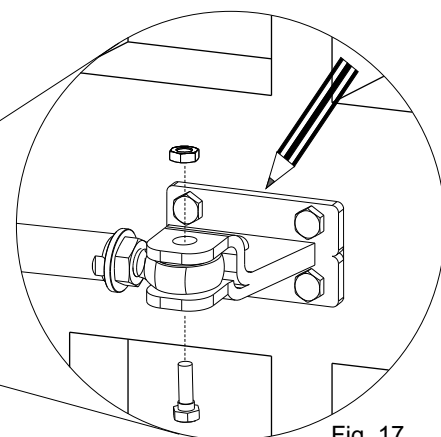

Fig. 17
3. Attach the shaft to the front bracket (Fig. 17).